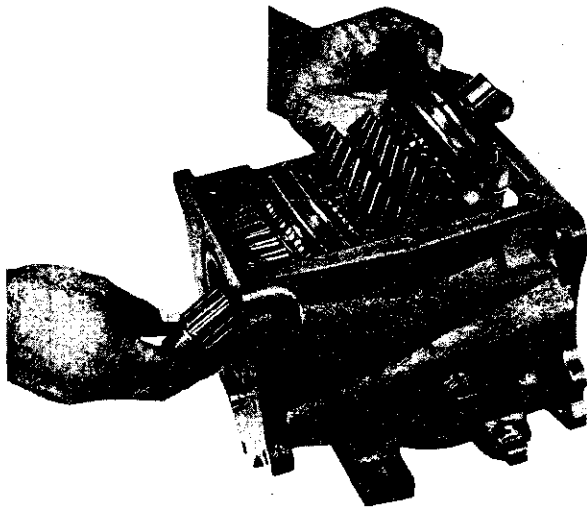

FIG. J-18—REMOVING-INSTALLING MAINSHAFT GEAR ASSEMBLY
- h. Remove mainshaft and gears as an assembly, through the case cover opening as shown in Fig. J-18.